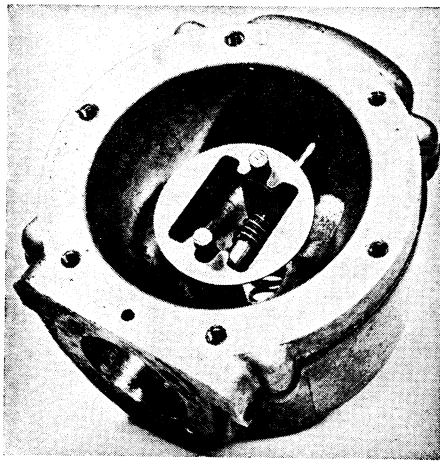

Fig. 18 Showing how flat washer rests on pins in lower body section after diaphragm is in position
3. Fig. 18 shows where special washer will be on the pins when the diaphragm is in place.